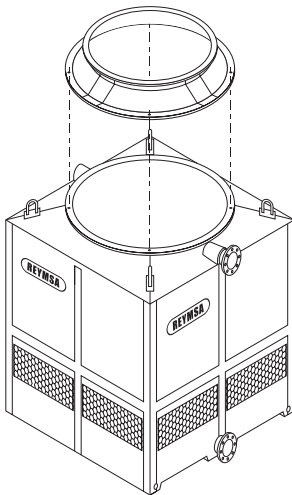
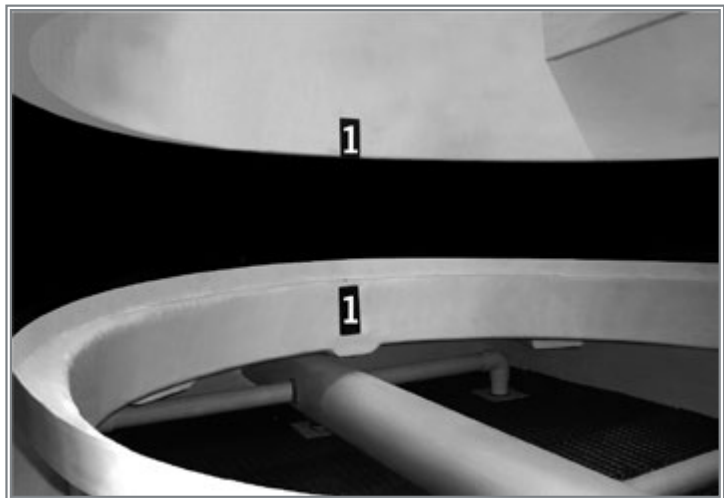

Figure A-36: Fan adaptor installation
Figure A-37: Fan adaptor alignment
A. Before installing the fan duct (see sections A.2.1, A.2.2, A.2.3 or A.2.4 for reference), place the fan adaptor on the receiving flange located on top of the tower (see Figure A-36); make sure the bolt holes and the marks inside the fan adaptor are aligned (Figure A-37). Then secure it using the stainless steel nut and bolt sets supplied by REYMSA.